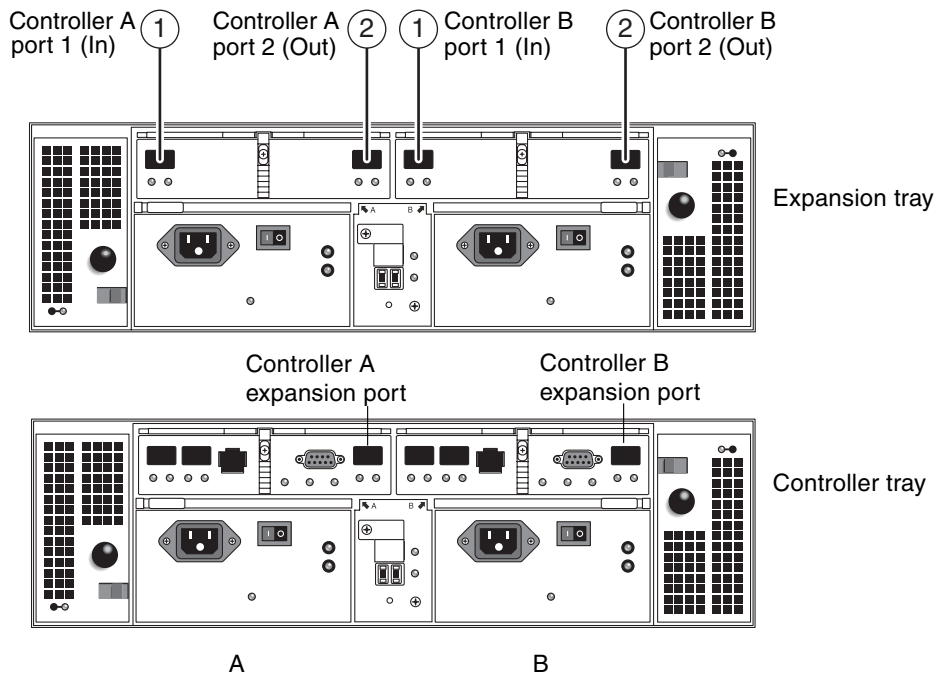

FIGURE 2-37 Expansion and Controller Tray Ports
This section describes how to cable a controller tray to expansion trays for several different configurations. The controller tray uses Controller A and Controller B expansion ports to connect to FC-AL ports at the back of an expansion tray (FIGURE 2-37).
1. Locate the Controller A side and B side expansion ports at the back of the controller tray (FIGURE 2-37).
2. Locate the Controller A side and B side FC-AL ports 1 and 2 at the back of the expansion tray (FIGURE 2-37).
2. Locate the Controller A side and B side FC-AL ports 1 and 2 at the back of each expansion tray (FIGURE 2-37).